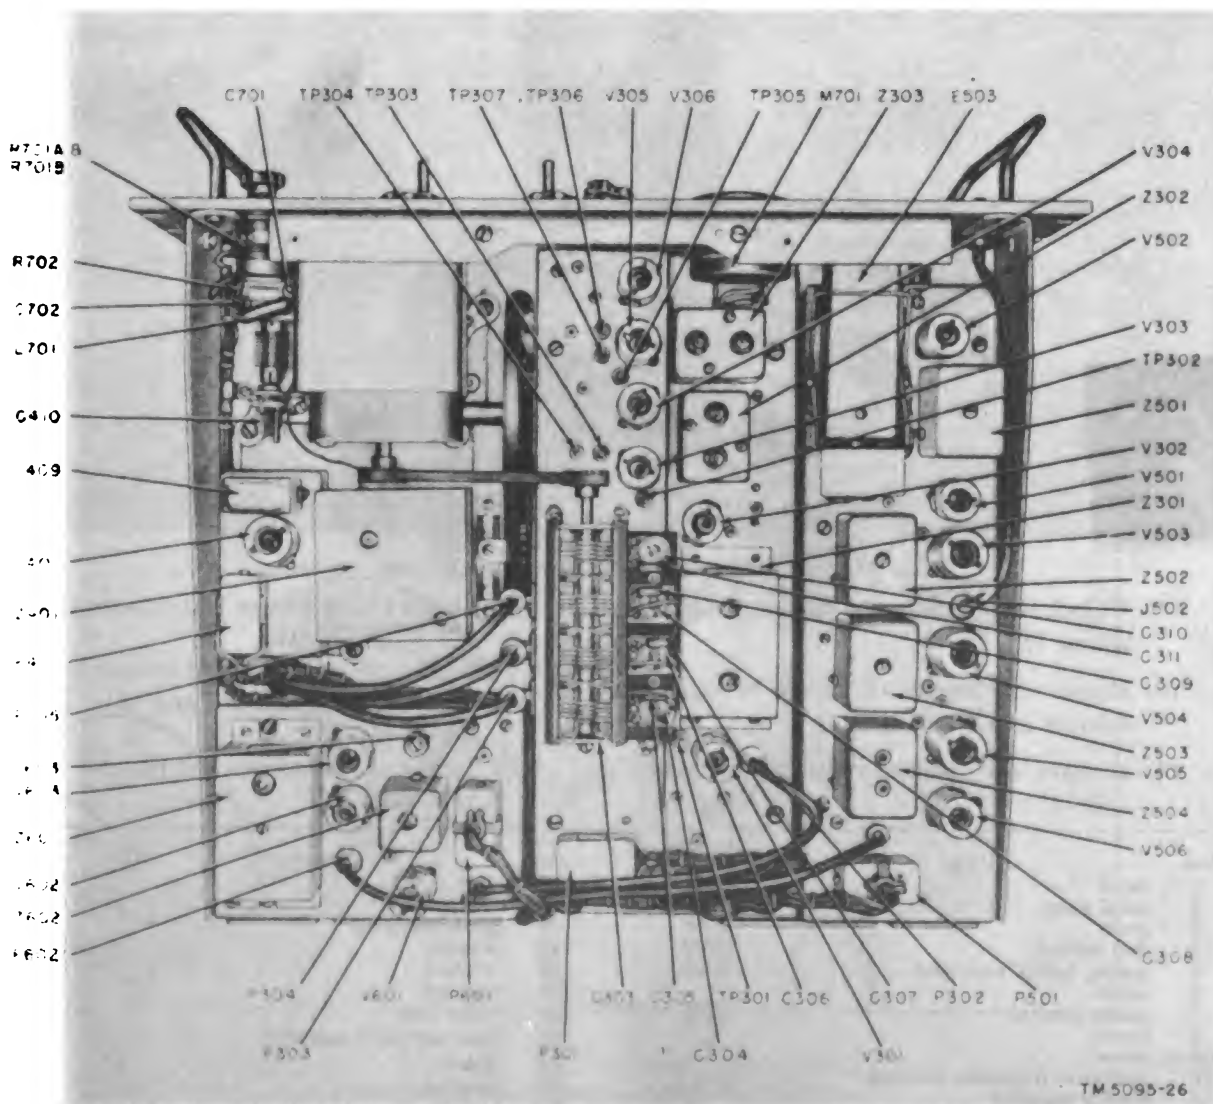

Figure 28. Frequency Meter FR-5/U, location of parts, top view.
- (4) With the CHECK control, set capacitor C402 at half mesh.
- (5) With the large gear wheel on the side of the interpolation oscillator (fig. 28), set the large tuning capacitor (C403) to full mesh.
- (6) With the gear wheel on the capacitor C303 shaft on the bandpass amplifier (fig. 28), set C303 to full mesh.
- (7) Hook up the rubber drive belts (fig. 28); be careful to maintain the capacitor settings of the previous steps.
- (8) Turn the FUNCTION SWITCH to CHECK.
- (9) Turn the FINE tuning control clockwise
- (10) Center the check point in the window and adjust the CHECK control so that the zero beat is again indicated. Proceed to (12) below.
- (11) Remove the rubber drive belt from the film mechanism (fig. 28) and turn the film shaft so that the check point is centered in the window; then replace the drive belt. If the zero beat does not occur exactly at the check point, proceed as in (10) above.
- (12) Turn the FINE tuning control clockwise and calibrate the film strip at each of the four succeeding check points as in (11) above. The film mechanism is now replaced and realigned.
a. The crystal oscillator subassembly is mounted on the left-hand side of the top deck (fig. 28), and contains a crystal unit inclosed in a temperature-controlled oven. To the rear of the oven are two frequency-divider circuits and the interpolation oscillator check circuit. To replace any part located on the underside of the crystal oscillator subchassis, first remove the subchassis from the top deck.
- (1) Remove the front panel rf jack J702 by taking out the four retaining screws.
- (2) Pull out P602 from J602 (fig. 28).
- (3) Pull out P501 from J501 (fig. 28).
- (4) Remove the four retaining screws, two on each long side of the subchassis.
- (5) The crystal oscillator subchassis can now be removed.
- (1) Set the power supply in position and secure it with the eight retaining screws.
- (2) Reconnect plug P101 to J101.
- (3) Reconnect plug P102 to J102.
a. This subassembly, located on the top deck of the main frame (fig. 28), consists of three circuits, each designed to pass a selected frequency. The frequency passed is determined by the setting of the RANGE control. Most trimmers and adjusting screws are located on top of the band-pass amplifier chassis. To test or remove any component located on the bottom of the chassis, the subassembly must be removed from the main frame. Four screws secure the subassembly to the main frame. A coaxial cable interconnects the band-pass ampli-
- (1) Position the band-pass amplifier in the main frame.
- (2) Replace the four retaining screws.
- (3) Turn the FINE control so that 00 416000 appears in the film window.
- (4) Turn the plates of tuning capacitor C303 to exactly full mesh.
- (5) Replace the drive belt on the capacitor shaft.
- (6) Reconnect plug P301 to J301.
- (7) Reconnect the four coaxial cables.
a. This subassembly, mounted in the front right corner of the top deck (fig. 28) of the main frame, is tuned by the FINE and CHECK controls. All critical components affected by humidity are located within the hermetically sealed unit, Z401. Power and all control voltages are supplied through jack J401, located on the rear of the chassis.
- (1) Remove the CHECK control by loosening the two setscrews.
- (2) Remove the rubber belt between the interpolation oscillator and variable capacitor C303 on the band-pass amplifier subassembly.
- (3) Remove the rubber belt between the film drive and the large gear on the interpolation oscillator.